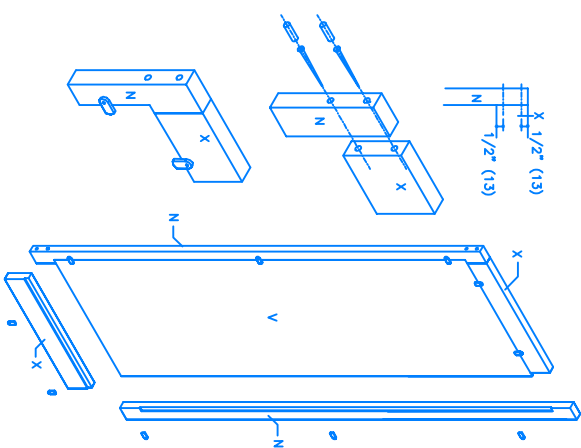

FIGURE 5
- 3) Drill four 1/8" pilot holes into each N as shown (Fig. 5). Place N up to X and pre-drill 1/16" holes through the previous holes, 1 1/2" into X. Countersink holes in N with a 1/4" #8 drill bit about 3/4" deep. Glue and screw pieces N to X with 2 1/2" #8 flathead screws. Wipe off excess glue. Ensure that the frame is square and set aside for glue to set for 24 hours. Repeat the frame assembly on the other side of the case. Insert and glue 1/4" dowel plugs into the countersink holes. Cut and sand the plug smooth. Place the hinge and door into the cabinet to dry fit for clearances. You may have to trim the door slightly. Insert the glass panels and attach each panel with eight plastic screen clips. Attach the handles according to manufacturer's instructions. Attach the piano hinge to N with the hinge pin just protruding 1/8" beyond the face of the door.